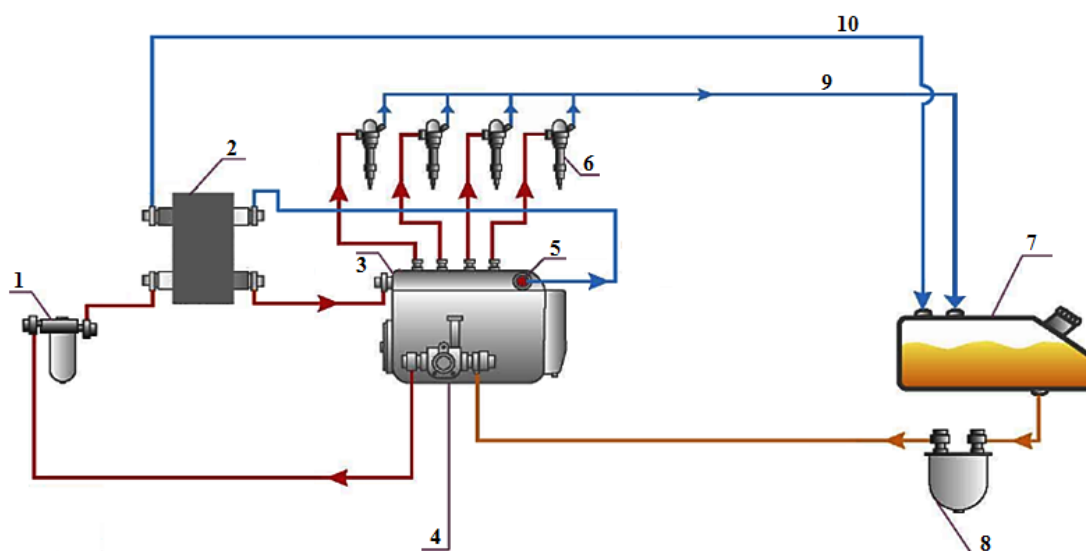

fig. 4.8. eurosens Delta installation with supply chamber on pressure side,
- supply chamber is installed in the fuel line after LPFP (pressure side) (fig. 4.8);